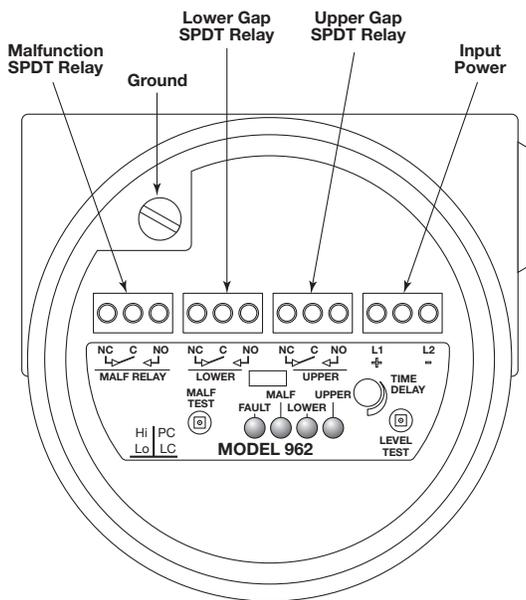

Figure 10
4. Refer to Figure 10. Connect power leads to proper terminals. Model 962 is available for AC power (102 to 265 VAC) or for DC power (12–35 VDC)
5. Connect desired relay wiring as shown in Figure 10.